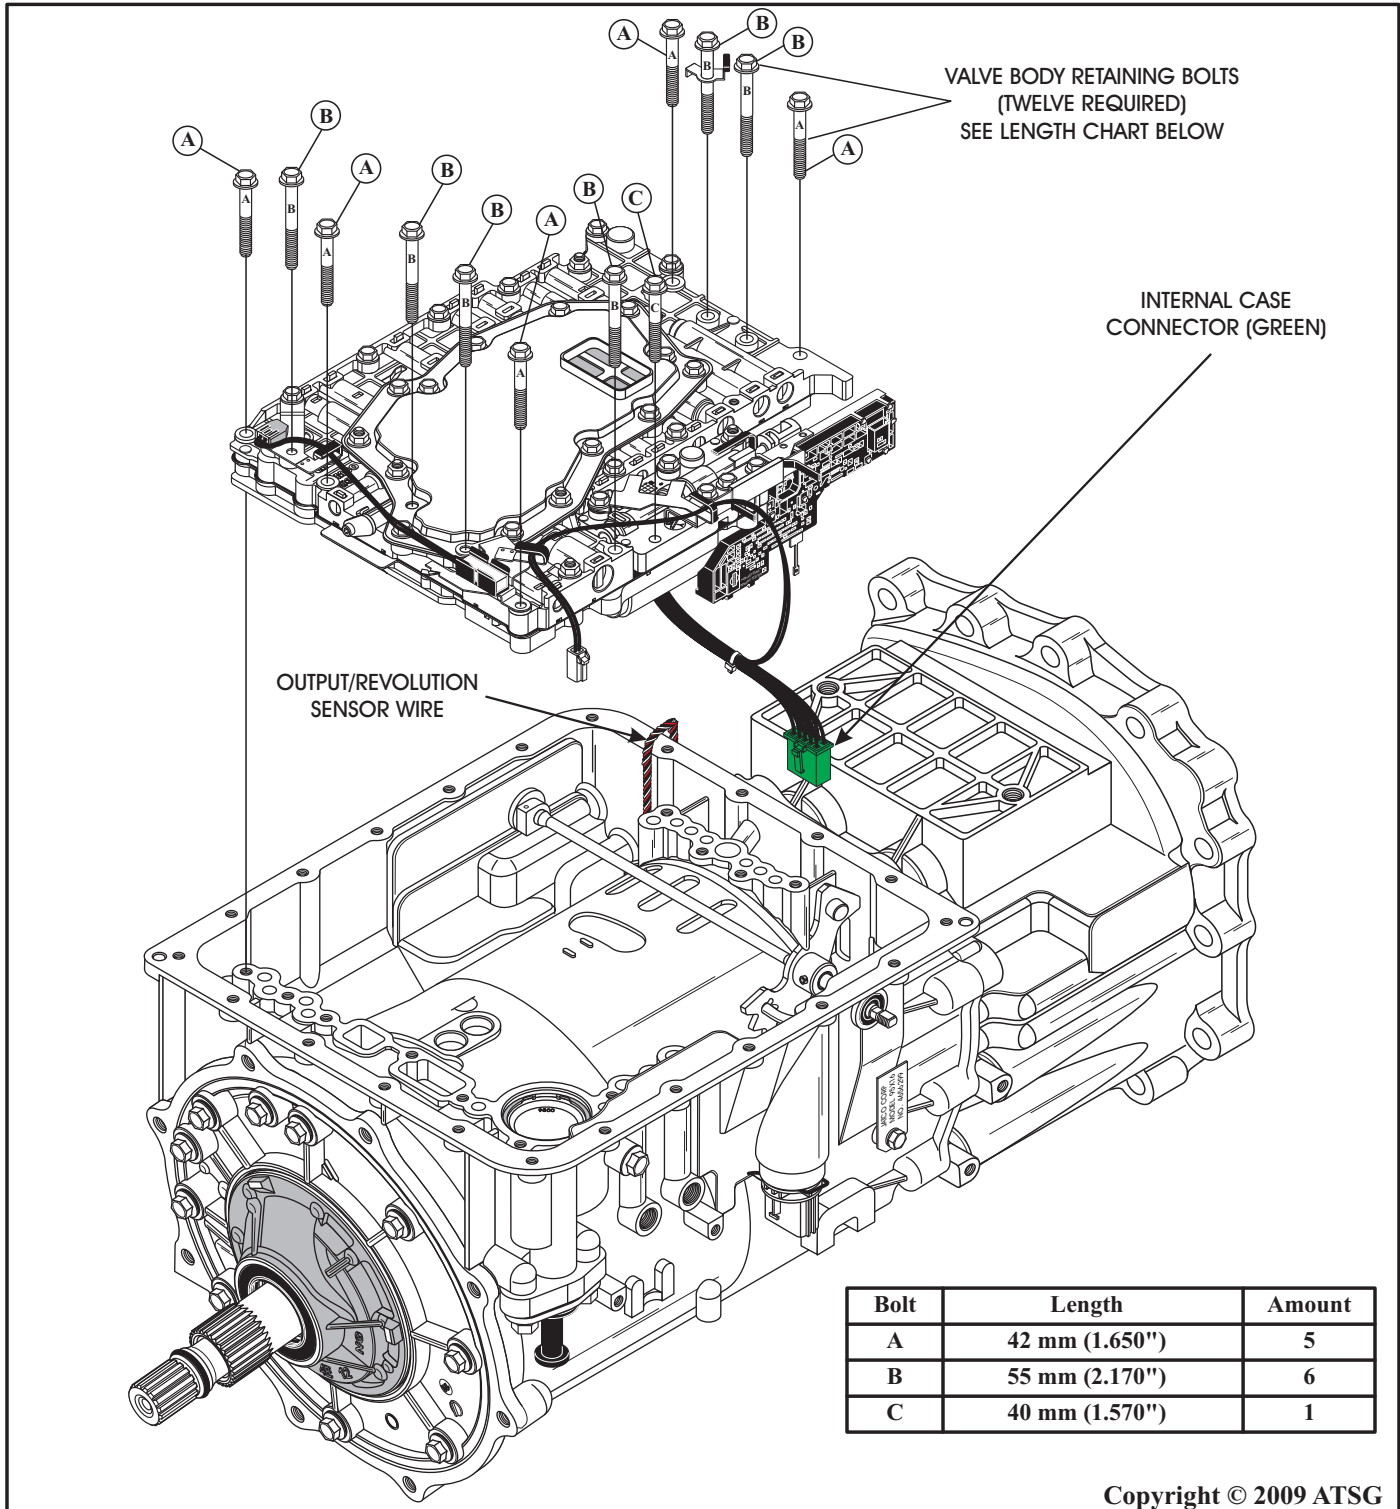

Figure 235
- (A) Lay output/revolution sensor wire over the pan rail, as shown in Figure 235, to avoid any possibility of damage.
- (B) Green case connector on internal wire harness must be connected to pass-thru connector, as shown in Figure 235, as we install valve body.
89. Install the pre-assembled valve body assembly as shown in Figure 235, while monitoring the items covered in step 87 A, B, C, and D.
90. Install the proper length valve body retaining bolts in their proper locations, as shown in Figure 235, using the chart provided.